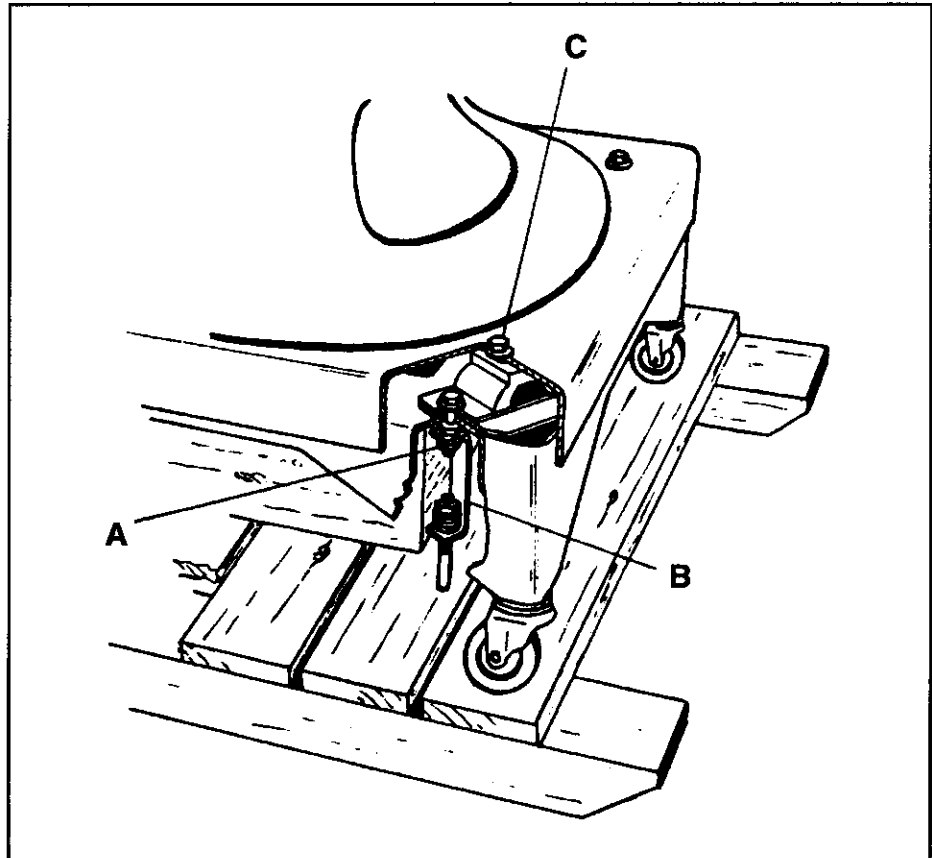

Figure 1 Model K Unpacking
Four metal shipping brackets hold the base of the unit to the wooden skid. Unscrew the nuts (labeled A in Figure 1) holding the steel brackets (B) in place between the base casting and the wooden platform. Unscrewing the nuts releases the brackets. Do not disturb the four bolts (labeled C) that are visible from the top of the centrifuge. These are permanent bolts that hold the vibration dampers in position.